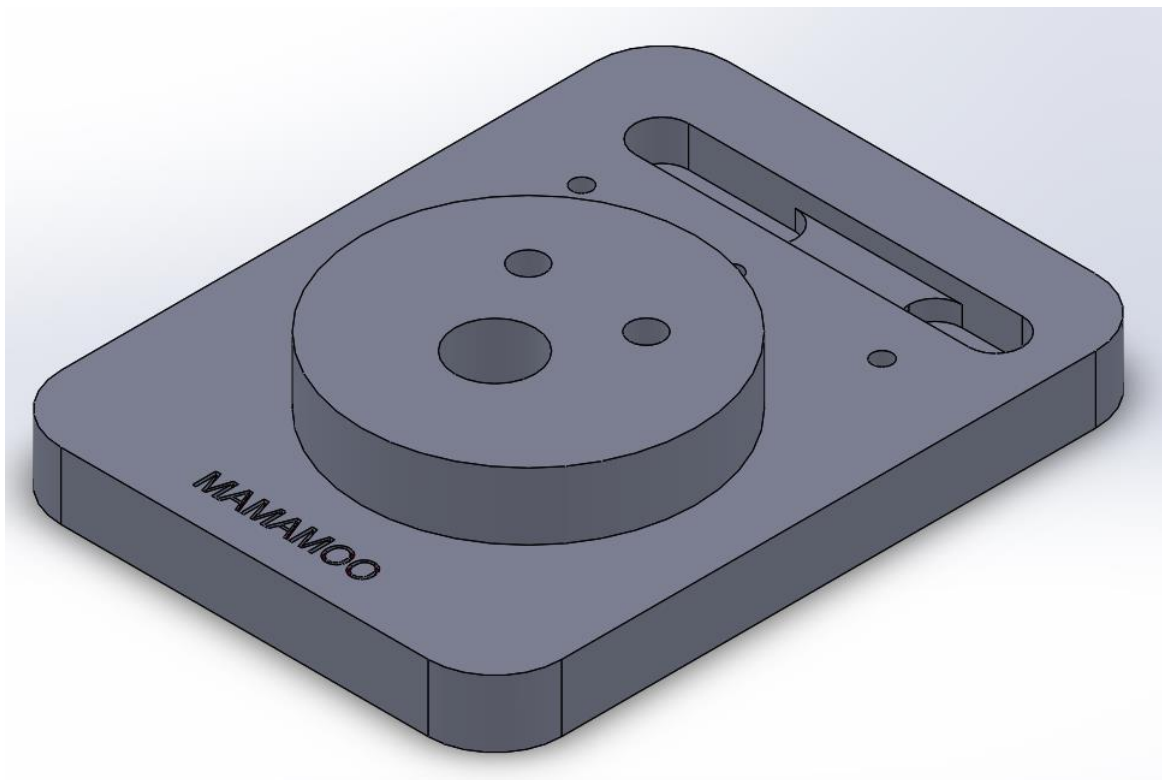

Figure 1 – Orientation of part. The base lies parallel to the x-y plane.
2. Open up the part in Fusion 360 and orient the part correctly (see Figure 1).